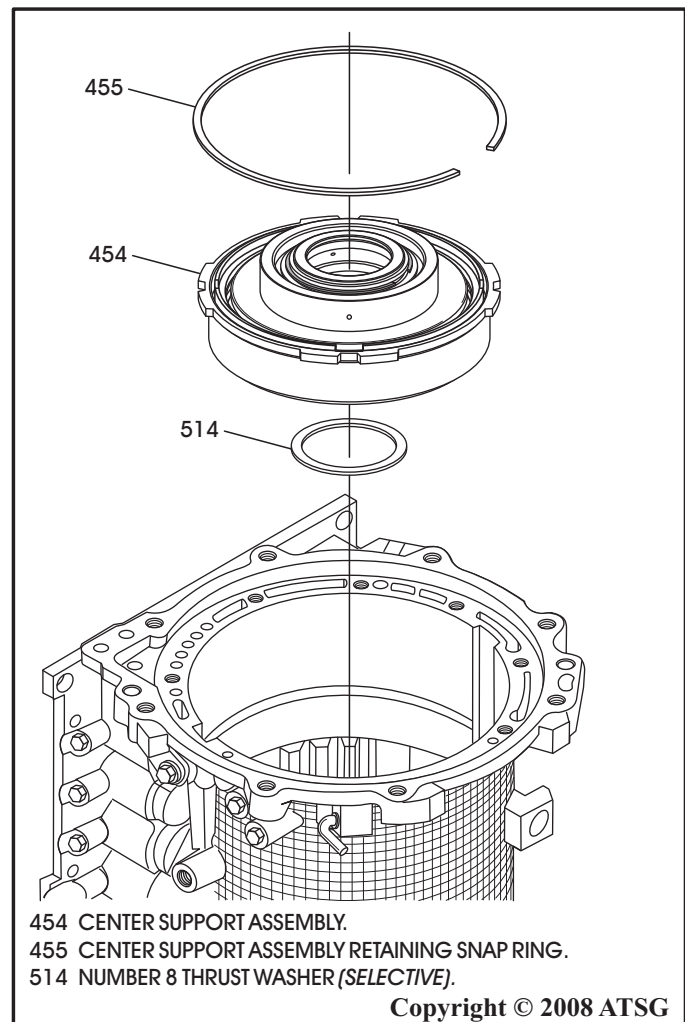

Figure 52
48. Remove the center support retaining snap ring, as shown in Figure 52, and tag for ID.
49. Remove center support assembly from case, as shown in Figure 52.
50. Remove the number 8 selective thrust washer, as shown in Figure 52.